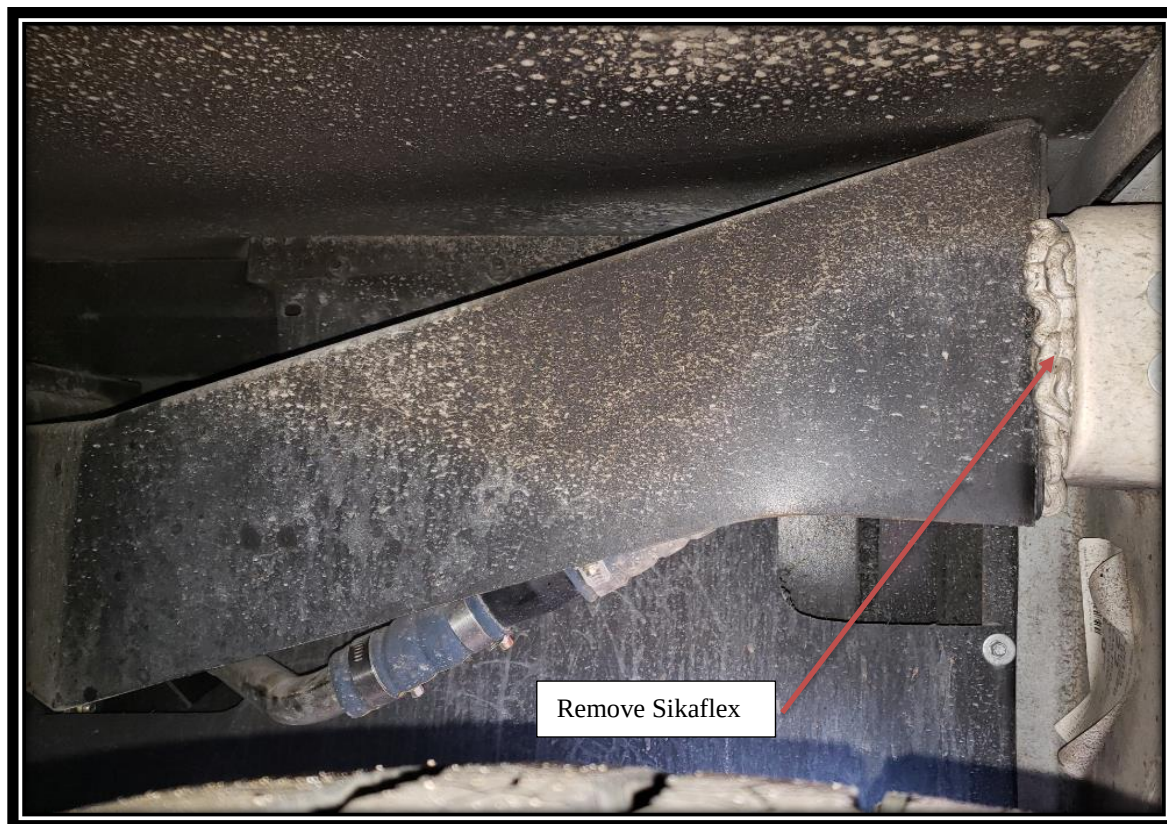

FIG. 3-1
3. Remove Sikaflex from between wheel well body panel and DEF spill pan. Clean body panel so it is free of Sikaflex. Refer to FIG. 3-1.